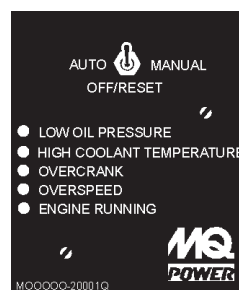

Figure 42. Engine Running LED (ON)
4. Verify that the **Engine Running** status LED on the MPEC unit (Figure 42) is **ON** (lit) after the engine has been started.